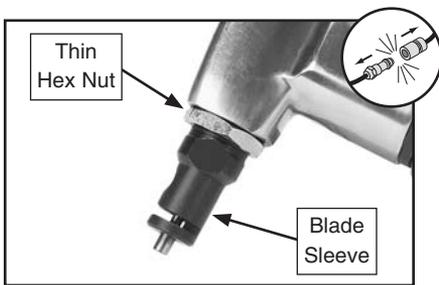

Figure 2. Identification of the thin hex nut and blade sleeve.
2. Loosen the thin hex nut that secures the blade sleeve (see **Figure 2**).